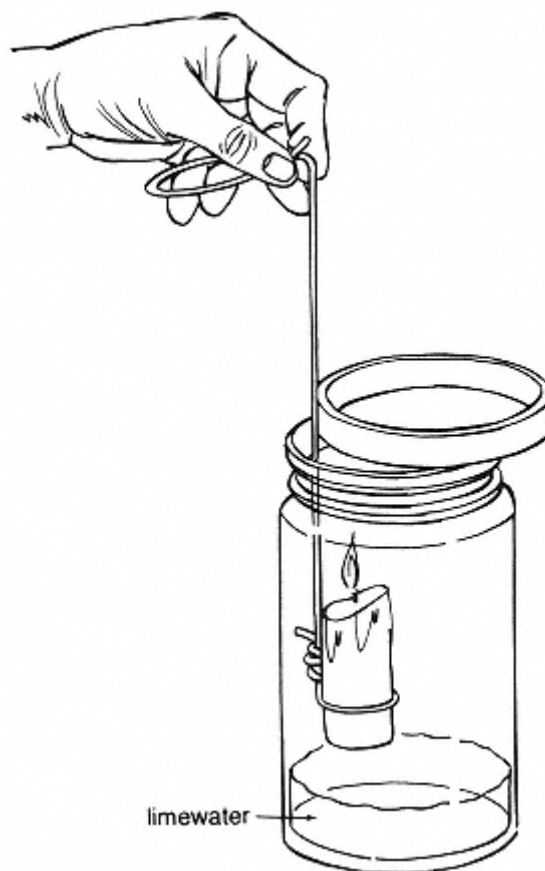

Figure 27.2
1. Organic fuels, which are compounds containing carbon (wax, for example), produce carbon dioxide when burned. Demonstrate this by burning a candle and collecting and testing the gas produced. Place about 1 inch (2.5 cm) of limewater in the bottom of a 1-quart (1-liter) jar. Wrap the end of a 12-inch (30-cm) wire around the center of a 2-inch (5-cm) long candle. Twist the wire to make a long handle (see Figure 27.2). Light the candle and hold the end of the wire to lower the candle into the jar. Cover part of the mouth of the jar with its lid.